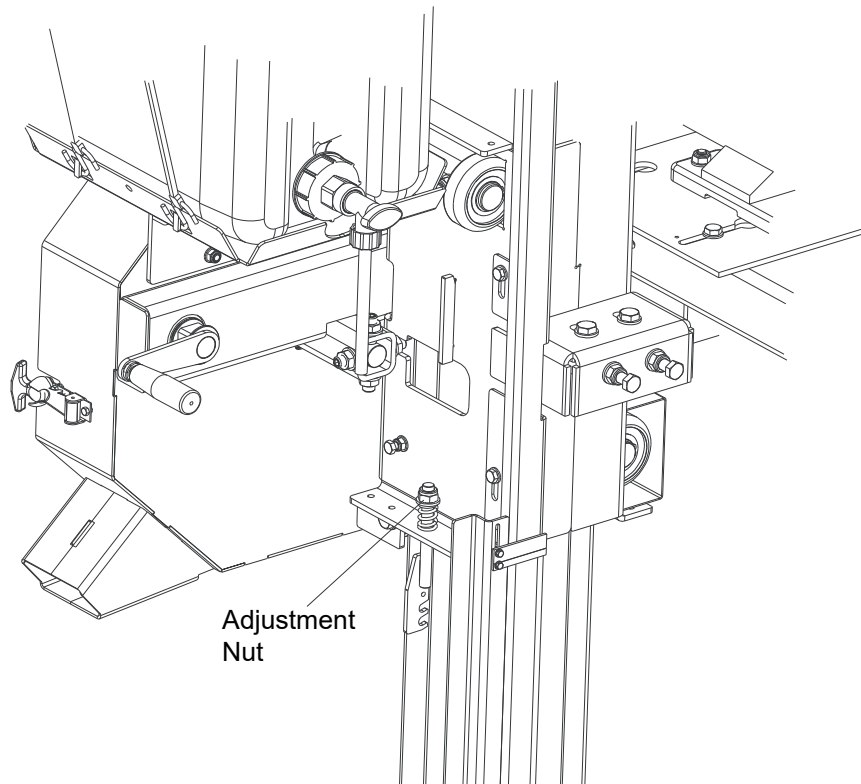

FIG 3-12
1. Adjust the up/down chain tension as needed. Measure chain tension with the cutting head all the way to the top of the vertical mast. Secure the carriage with a chain at the top, or shim it underneath. Using the adjustment nut shown in Figure 3-12, adjust the chain tension so that there is 1" (2.5 cm) deflection in the center of the chain with a 5 lbs. (2.3 KG) deflection force.